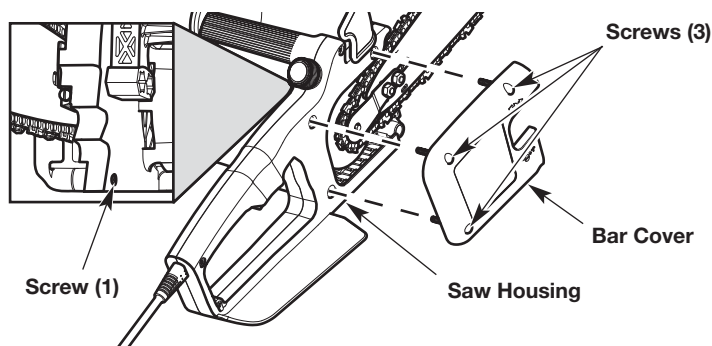

Fig. 35
1. Use a Phillips screwdriver to remove the four (4) screws that hold the bar cover in place (Fig. 35).
3. Use a 7/16 inch (11 mm) wrench to slightly loosen the bar-retaining nuts (Fig. 35). **DO NOT** remove the bar-retaining nuts.
4. Tighten the bar-retaining nuts hand tight (Fig. 35).
8. Place the bar cover onto the saw housing (Fig. 35). Align the holes in the bar cover with the holes in the saw housing.
9. Insert the four (4) screws into the aligned holes. Tighten the screws securely.